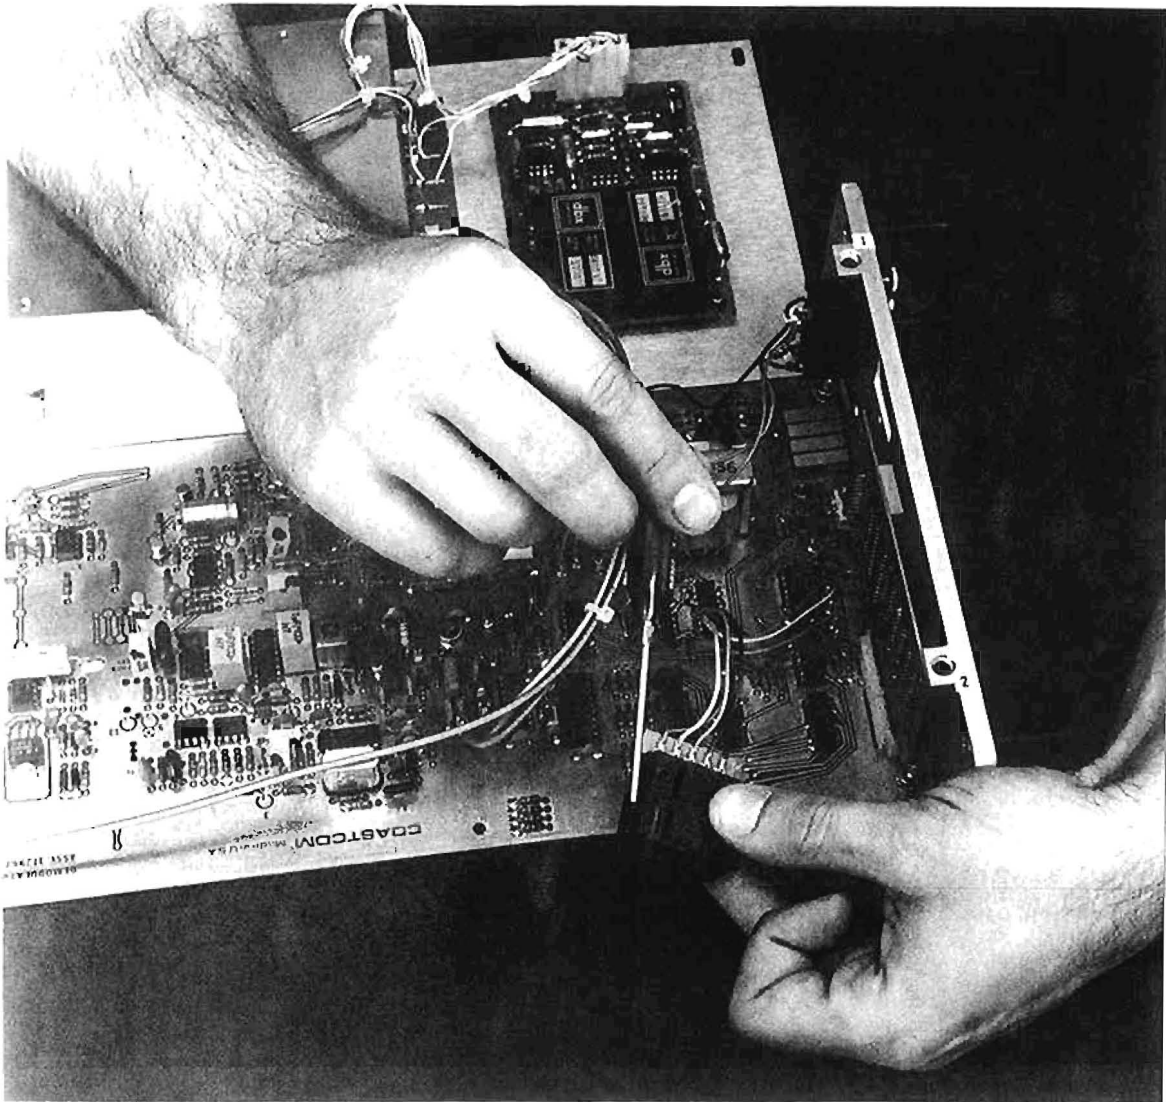

FIGURE NO. 7
- 7) Two (2) U-Shaped clips hold the switch together. Refer to figure No. 7 - Gently pry these clips off. The switch will come apart into three (3) pieces.